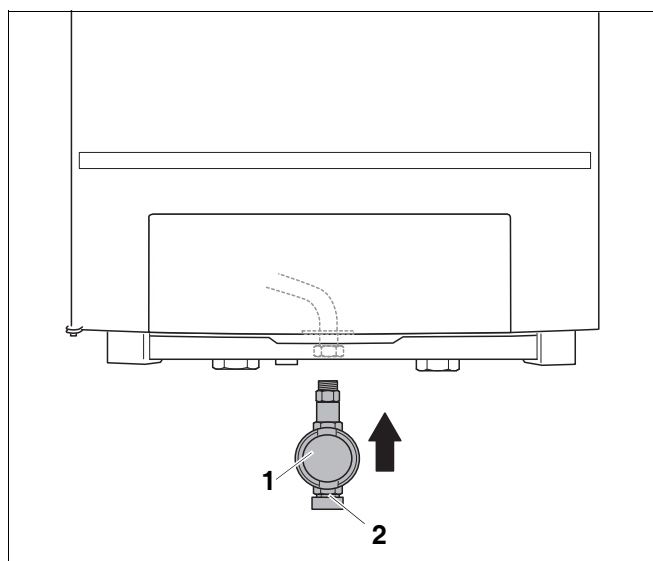

fig. 4 Making the gas connection
- Install the gas valve (fig. 4, **item 1**) onto the gas pipe (GAS) in the boiler.
- Connect the main gas supply to the gas isolating valve (fig. 4, **item 2**) free of strain.